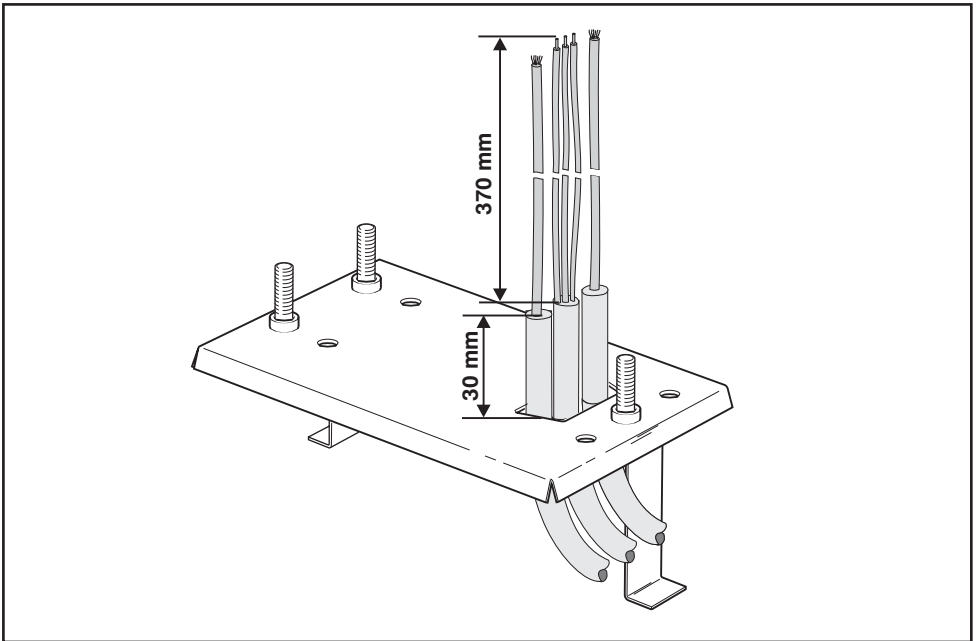

Figure 11 Route Cables Through Baseplate
- Route cables as determined in the cabling plan (Figure 7), making sure that all cables protrude at least 400mm above the baseplate once installed, as in Figure 11.